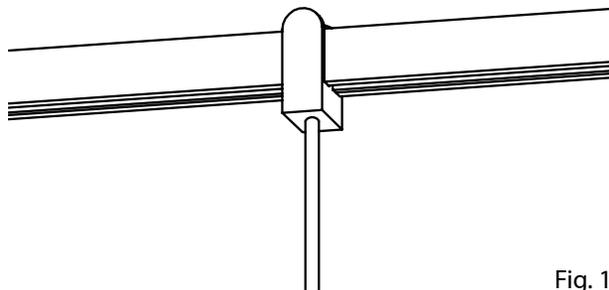

Fig. 16
1. Align **Hanger** with **Power Bar** (Fig. 15) and press down firmly on the top of the Power Bar, while pressing up on the bottom of the Hanger, until the Power Bar clicks into place. (Fig. 16)